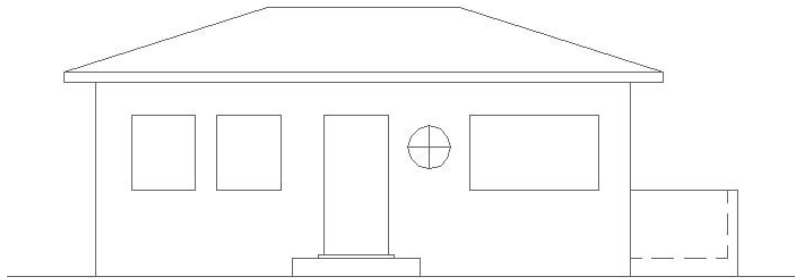

FIGURE 8.17: The completed balcony
9. Click Linetype. Then open the Linetype list and click Dashed. Close the Properties palette and press the Esc key. The lines are changed to dashed lines to indicate that they are hidden in the elevation (see Figure 8.17).